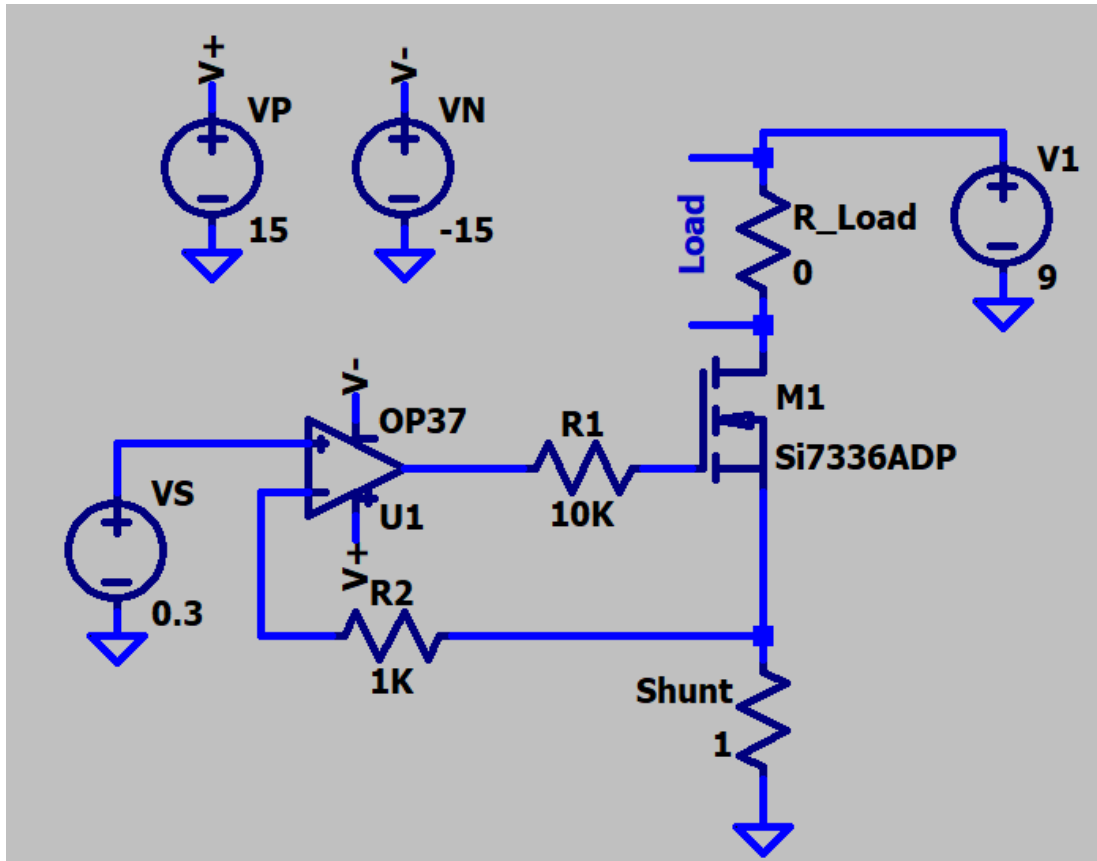

Fig. 2. Voltage–Controlled Current Source
2. Assemble this circuit in Fig. 2, run transient analysis (set Stop time to 1).